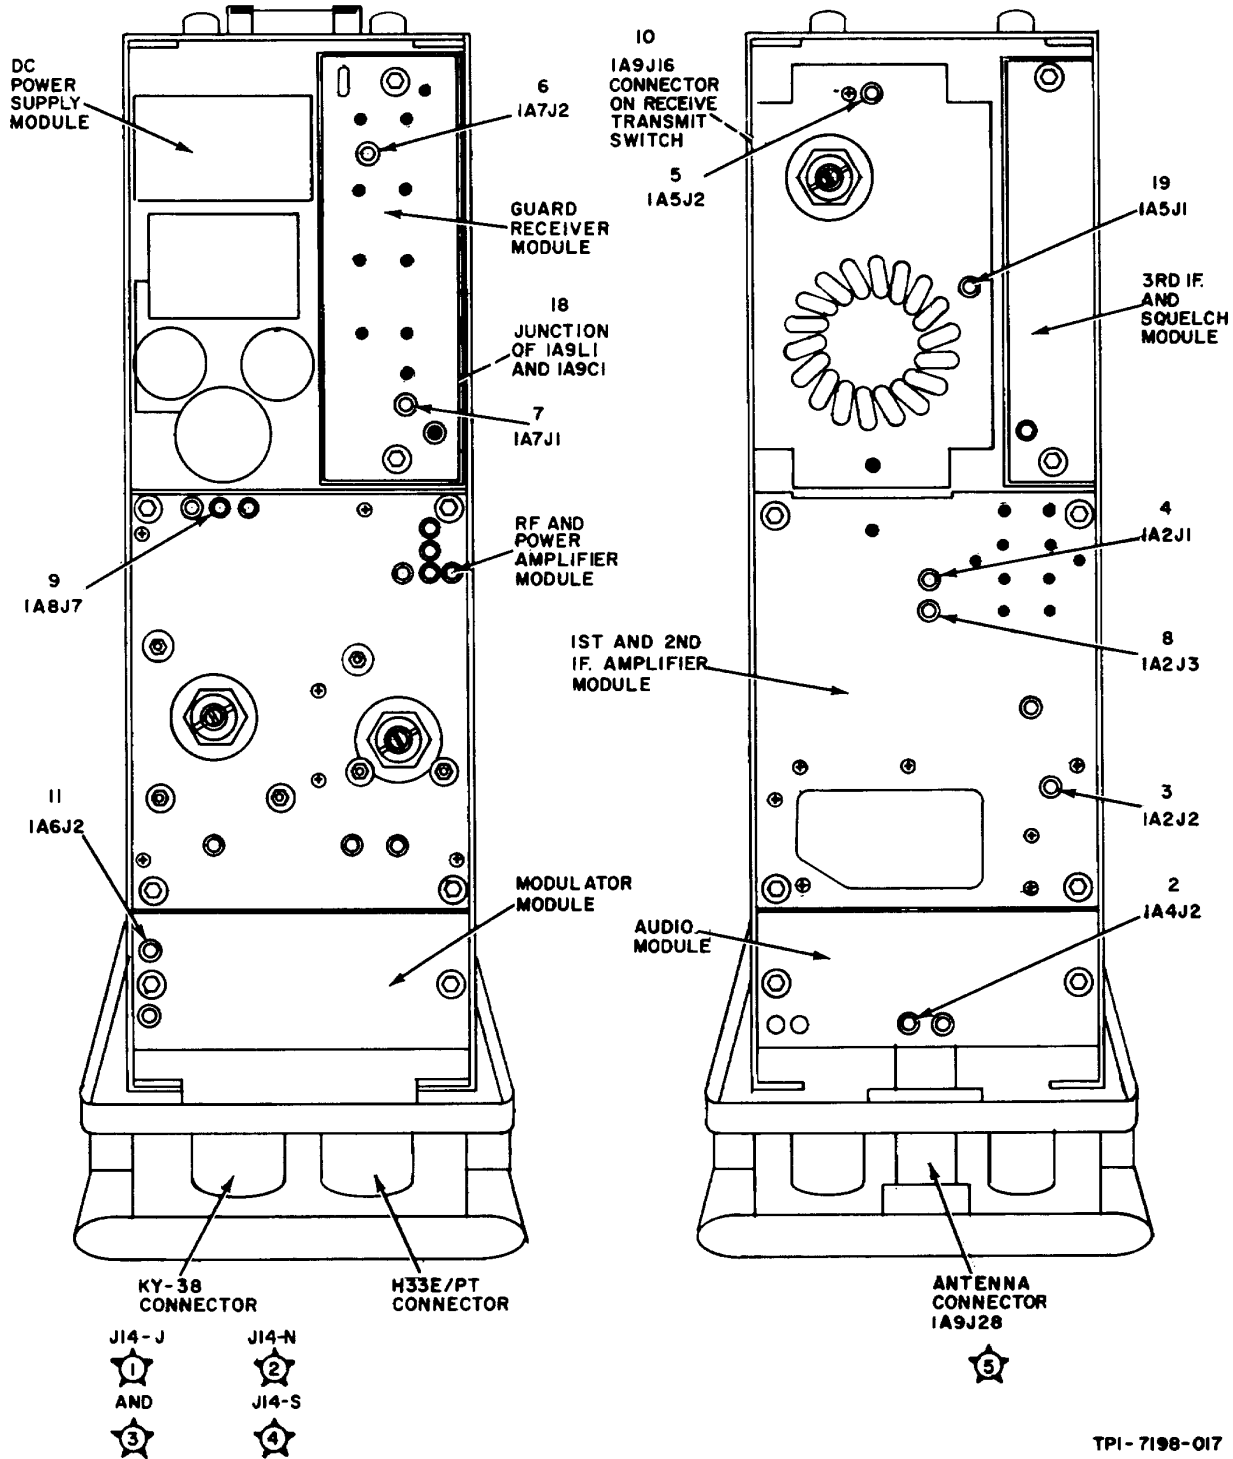
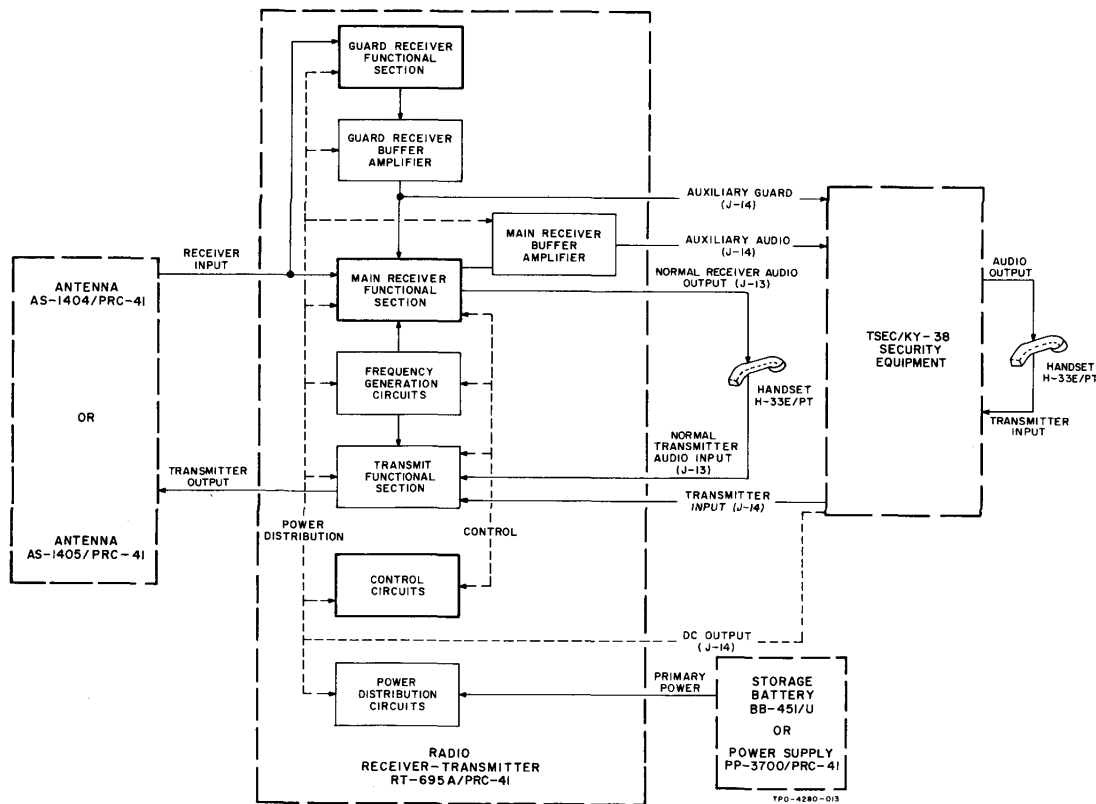

Figure 4-1. Radio Receive Transmitter RT-695A/PRC-41, Module and Test-Point Locations.
Figure 4-3. Radio Set AN/PRC-41A, Overall Functional Block Diagram
(1) SYMPTOM RECOGNITION. - This is the first step in the troubleshooting procedure and is based on a complete knowledge and understanding of equipment operating characteristics. All equipment troubles are not the direct result of component failure; therefore, trouble in an equipment is not always easy to recognize since all conditions of less than peak performance are not always apparent. This type of equipment trouble is usually discovered while accomplishing preventive maintenance procedures. It is important that the not so apparent troubles, as well as the apparent troubles, be recognized.
(2) SYMPTOM ELABORATION. - After an equipment trouble has not been recognized, all the available aids designed into the equipment should be used to elaborate further on the original trouble symptom. Front panel controls should provide a better identification of the original trouble symptom; also, checking or otherwise manipulating the operating controls may eliminate the trouble.
(3) LISTING PROBABLE FAULTY FUNCTION. - The next step in logical troubleshooting is to formulate a number of logical choices as to the cause and functional section of the trouble. The logical choices are based on knowledge of the equipment operation, a full identification of the trouble symptom, and information contained in this manual. The overall functional description and its associated block diagram should be referred to when selecting possible faulty functional sections.
(4) LOCALIZING THE FAULTY FUNCTION. -(Refer to figure 4-1). For the greatest efficiency in localizing trouble, the functional sections which have been selected by the logical choice method should be tested in an order that will require the least time. This requires a choice to determine which section to test first, and should be based on the validity of the logical choice and the difficulties in making the necessary tests. If the tests do not prove that functional section to be at fault, the next selection should be tested, and so on until the faulty functional section is located. As an aid to this process, the manual contains a functional description and a servicing block diagram of the functional sections. Pertinent indications are included at significant check points on the servicing block diagram to aid in isolating the faulty section; also, test data (such as information on control settings, critical adjustments, and required test equipment) are supplied to augment the functional description and servicing block diagram of the functional sections.
(5) LOCALIZING TROUBLE TO THE CIRCUIT. - After the faulty functional section has been isolated, it may be necessary to make additional choices as to which circuit or group of circuits is at fault. The servicing block diagram of the functional sections and the individual functional circuit groups (where required) provide the signal flow and test location information needed to bracket and then isolate the faulty circuit. Functional descriptions, simplified schematics, and pertinent test data for individual circuits or groups of circuits of the functional section are all placed together in one area of the manual. Information which is too lengthy in nature to be included in this arrangement is readily referenced from the test data portion of the troubleshooting information.
(6) FAILURE ANALYSIS. - After the trouble (faulty component, misalignment, etc) has been located, but prior to performing corrective action, the procedures followed up to this point should be reviewed to determine exactly why the fault affected the equipment in the manner it did. This review is usually necessary to make certain that the fault discovered is actually the cause of the malfunction and not just the result of the malfunction.
a. RADIO SET AN/PRC-41A.-Radio Receiver-Transmitter RT-695A/PRC-41 is composed of eight plug-in modules and a main chassis. See figure 4-1 for relative module location and identification. The RT-695A/PRC-41 is a receiver-transmitter that provides radiotelephone (A3) communication from ground to air and ground to ground. Refer to figure 4-3, a functional block diagram. There are 1750 channels available, spaced 100 kHz apart, in the range of 225.0 to 399.9MHz. The operator can select each
(1) Since the units and accessories of AN/ PRC-41A are not electronic in nature, with the exception of Radio Receiver-Transmitter RT-695A/ PRC -41 and Power Supply PP-3700/PRC-41, the description and test information of this section is limited to RT-695A/PRC-41 and PP-3700/PRC-41. It may be necessary to check an antenna or cable assembly for continuity; however, damage to masts, mountings, harness, cases, etc. is obvious from visual inspection. No test information for these items is contained in this section. The RT-695A/ PRC-41 functions in three ways: it provides transmission and reception on 1750 channels in the 225.0-to 399.9-MHz range, and reception on a single frequency, 243.0 MHz, known as the guard channel. The functional sections are therefore identified as the main receiver, guard receiver, and transmitter. Refer to figure 4-3. Primary power, power distribution,
(2) Paragraphs 4-3 through 4-5 provide descriptions and test data for the functional sections. Alignment and adjustment information references the procedures of section 5. Paragraph 4-6 provides descriptions and test data pertinent to the subordinate circuits. Each of the functional sections are broken down into circuits or groups of circuits and into modules. A module is defined as a plug-in subassembly. The lowest level in this breakdown process is the simplest functional block (for example, an audio amplifier stage). Only the circuits which are uncommon (those not covered in the Handbook of Electronic Circuits, NavShips 900,000.102) will be discussed. In all other cases, reference is made to RT-695A/PRC-41 schematic diagrams of section 5 and the servicing block diagram of this section.
b. TEST POINTS. -Significant test points are identified on the functional section servicing block diagram, figure 4-19, and illustrated in figure 4-1 by use of star and circle test symbols. The star test-point symbol identifies and locates test points which are used to isolate trouble to a functional section. Circle test-point symbols identify and locate test points which are used to isolate trouble to a circuit within the functional section. Unless otherwise noted, all test-point voltage measurements are with respect to ground. Refer to table 4-2 and figure 4-1.